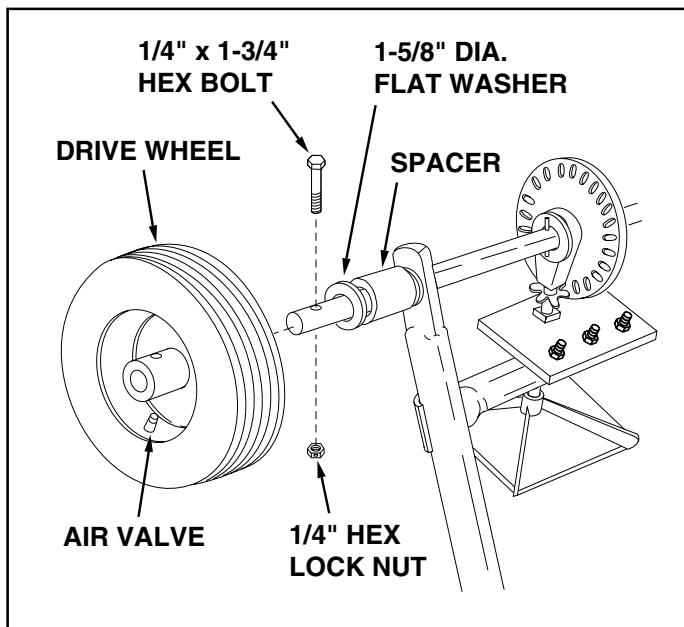

FIGURE 4
9. Assemble a spacer and a 1-5/8" flat washer onto the end of the axle that has the large hole. See figure 4.
10. Place the drive wheel onto the axle (air valve to outside) and secure with a 1/4" x 1-3/4" hex bolt and a 1/4" hex lock nut. See figure 4.
1. If the axle, slotted gear and sprocket assembly is disassembled, mark down the positions of the parts as they are removed. The drive wheel and sprocket positions in relation to the slotted gear determine which direction the spreader plate will spin. Be sure to reassemble them in their original positions. (Refer to figure 4 on page 5.) Use shim washers (Ref. no. 21 on pages 10 and 11) as needed for minimum backlash. Add grease to gear and sprocket.